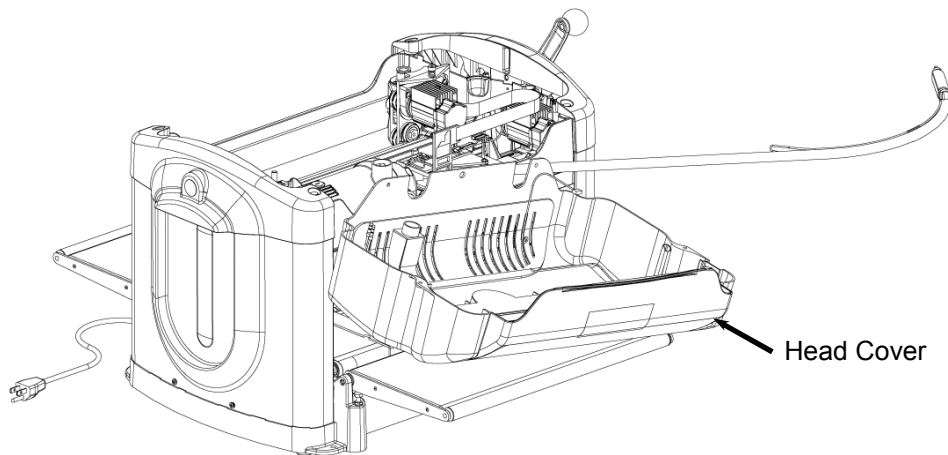

FIGURE 8: EXPLODED VIEW OF THE REMOVED COVER
7. **Lay the head cover to the side:** With the AC Interrupt Switch Cable still connected, carefully lay the cover onto the back outfeed tray (See Figure 8). Make sure to avoid pulling on the cable during the rest of the repair. You can also lay the cover over the side as shown in **Picture 1** of Appendix A.